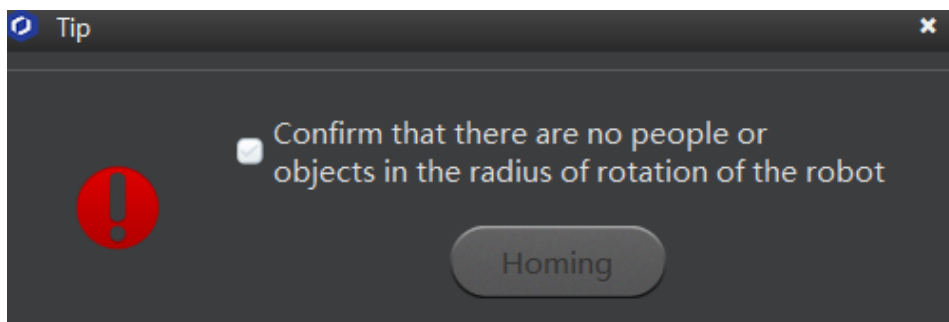

Figure 7.4 Homing procedure
- Step 3** Select the tip shown in the page and click **Homing**, as shown in Figure 7.4.